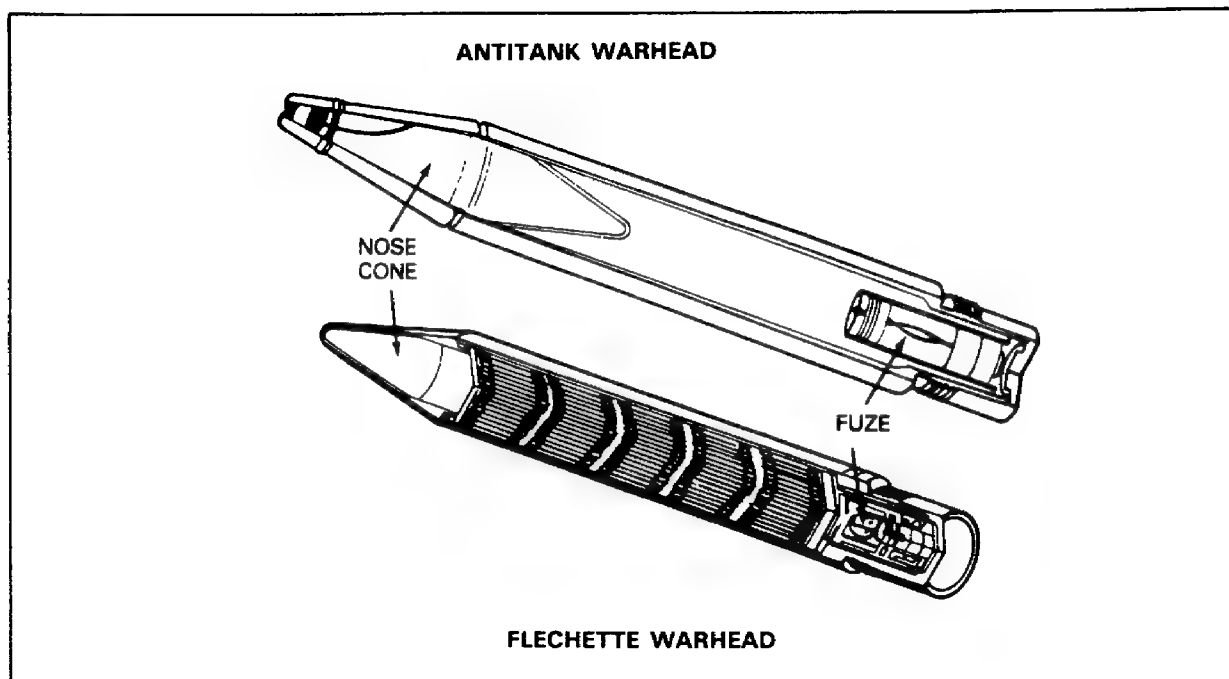

Figure 45. Two Types of 2.75-Inch Aircraft Rocket Warheads.
**Fuzes.** The 2.75-inch aircraft rocket uses a variety of fuzes, including: point-detonating (PD) fuzes; proximity (PROX) or variable time (VT) fuzes; point-initiating, base-detonating (PIBD) fuzes; and electronic time (ET) fuzes. The electronic time fuze has an umbilical connector that connects the fuze to the aircraft electrically and enables the pilot to select the time that the fuze will function from a control panel in the cockpit. Most 2.75-inch aircraft rocket fuzes are nose mounted, depending on the type of warhead used; but some warheads have fuzes installed in the base. The antipersonnel flechette warhead, for example, uses a fuze installed in the base. This makes the fuze an integral part of the warhead. Note how the fuzes are installed in the warheads in Figure 45.